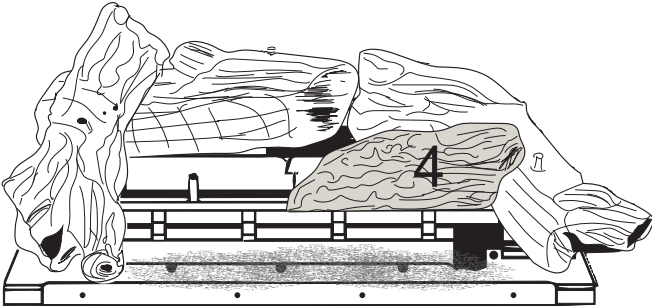

Figure 5 - Log #4 Placement
5. Hold log #4 with the pointed end toward the left. Place log #4 by positioning the pin locator hole on the bottom of the log over the right pin behind the grate and resting the right end of the log over the notch on log #1. See Figure 5.